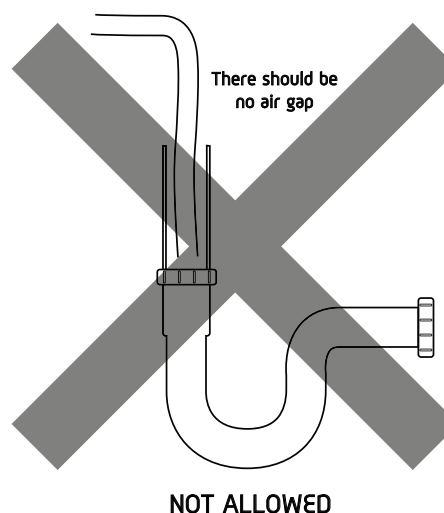

Fig. 17
**WARNING:** There must be no air breaks in the condensate pipework or drainage system (see Fig. 17).